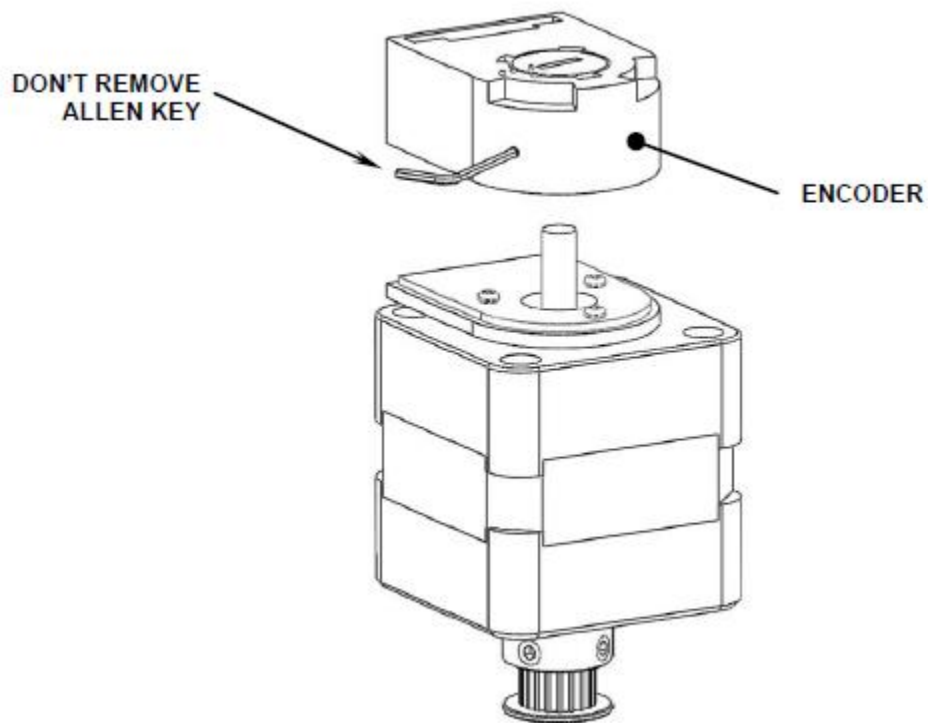

Figure O-30: Mounting the Encoder
3. Install the main part of the Encoder onto the Mounting Plate by snapping it in place (Figure O-30).